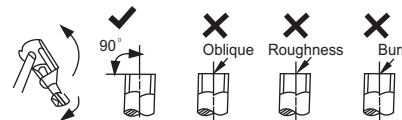

Fig. 9 —Cut the pipe
2. Cut the pipe, with a pipe cutter, at 90 degrees (see Fig. 9).